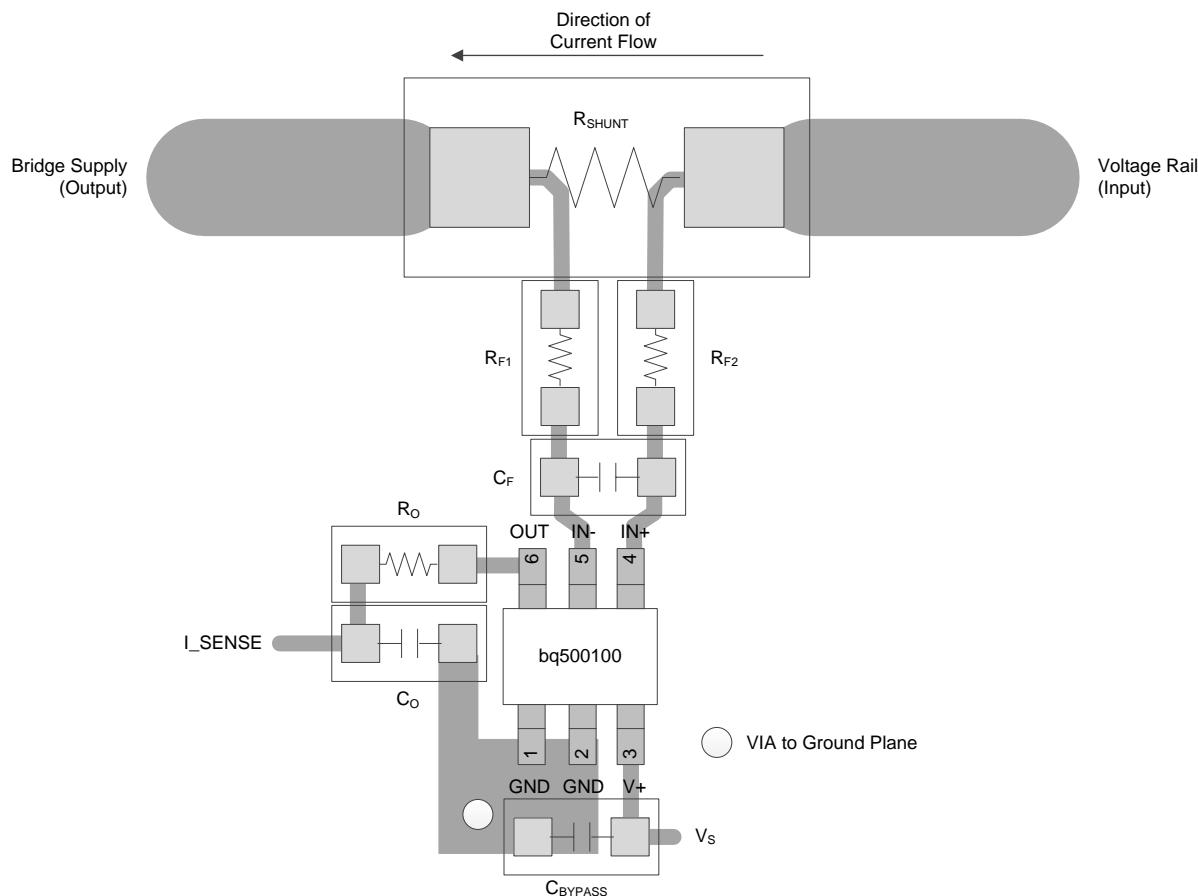

Figure 8. Recommended Layout
- The output of the current-sense circuit must be located as close as possible to the wireless power transmitter manager device. If the distance to the wireless power transmitter is greater than 1 cm, the output filter capacitor (C_O) shown in Figure 8 must be placed next to the I_SENSE pin of the wireless power transmitter manager. Placing the capacitor at the I_SENSE pin of the wireless power transmitter manager provides the best filtering of the current-sense signal.